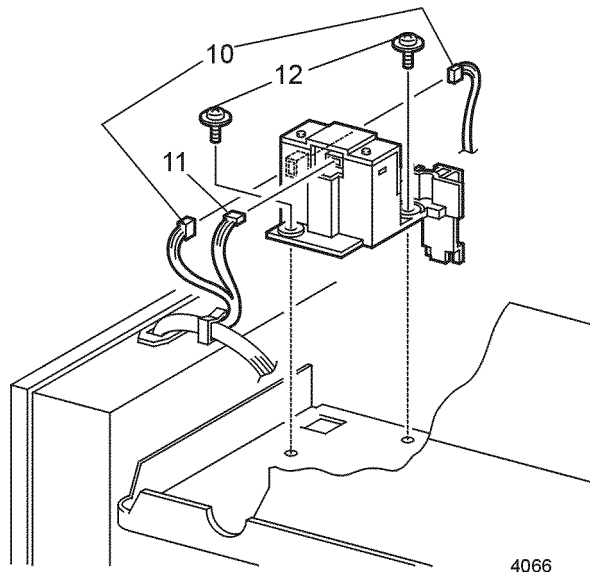

Figure 2 Print Cartridge Sensor
10. Disconnect both ends of the Toner Sensor Cable (P/J171) from the Sensor Assembly (Figure 2). Remove cable from cable clamps on cartridge sensor.
11. Disconnect P/J211 from the Cartridge Sensor Assembly (Figure 2).
12. Remove the two screws that secure the Print Cartridge Sensor Assembly to the printer (Figure 2).